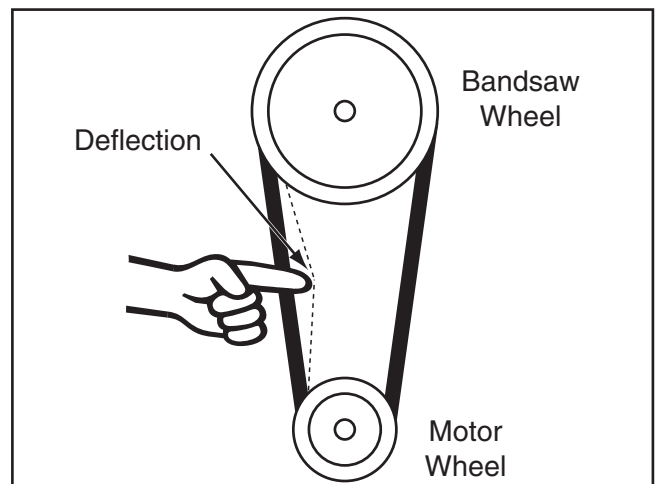

Figure 70. V-belt deflection.
4. Check drive belt tension by applying moderate pressure between pulleys (see **Figure 70**).